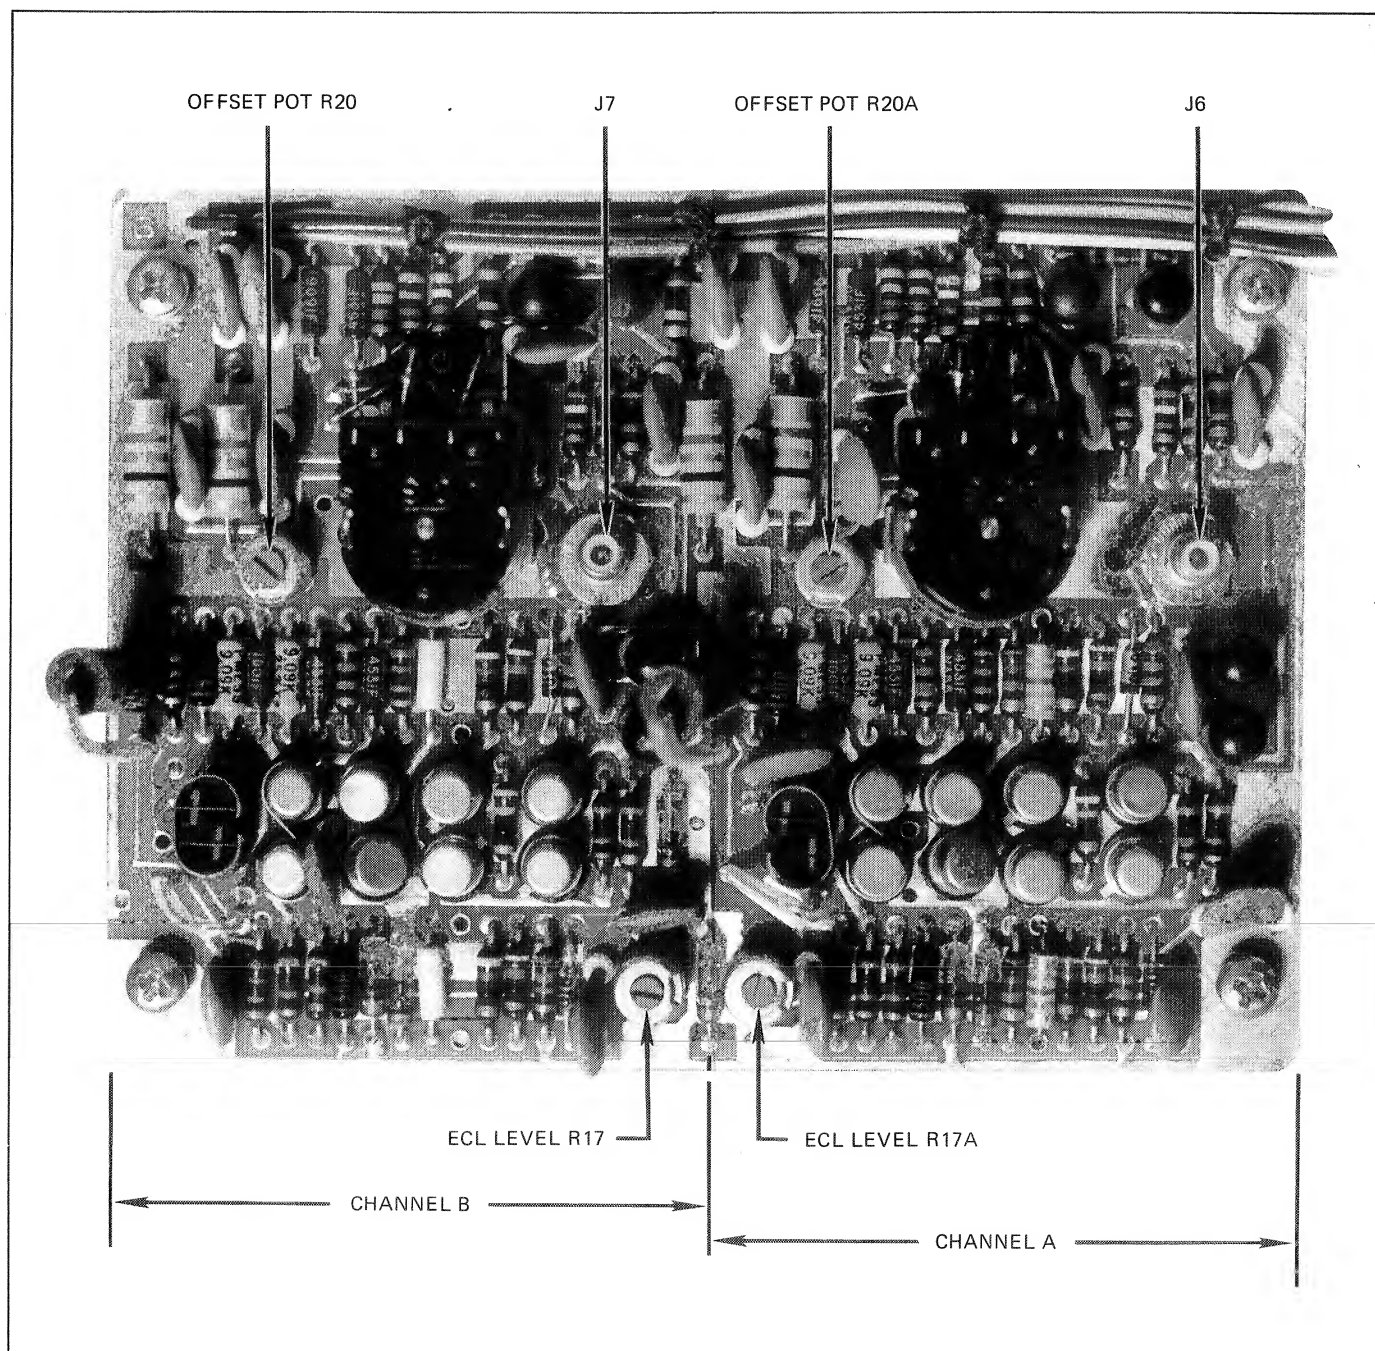

Figure 5.3 - Signal Conditioning Adjustments
- d. Adjust the ECL level pot R17A (figures 5.3 and 6.1) so the logic levels at MD1-12 are the same as the logic levels at MD2-8.
- f. Adjust the ECL level control R17 (figures 5.3 and 6.1) such that the logic levels at ME0-6 are the same as the logic levels at MC1-8.